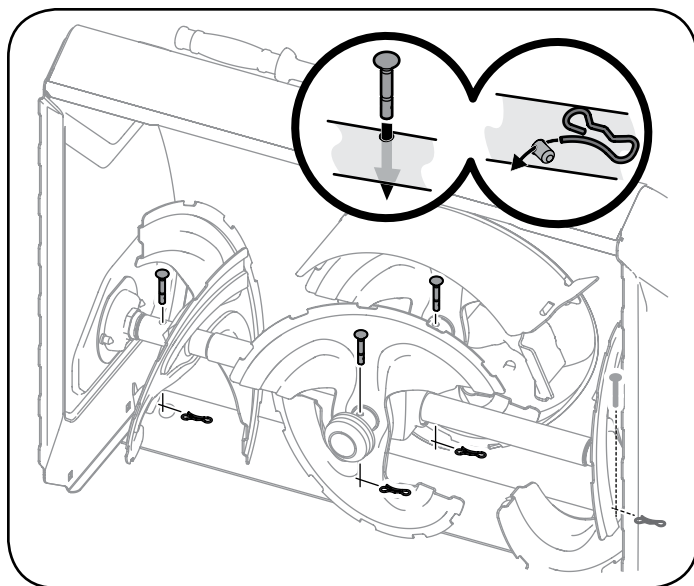

Figure 40
- The side augers are secured to the spiral shaft using black colored, round head shear pins - OEM part number 738-05273. See Figure 40.
- The central accelerator augers are secured to the spiral shaft using hex head shear pins - OEM part number 738-06654. See Figure 40.